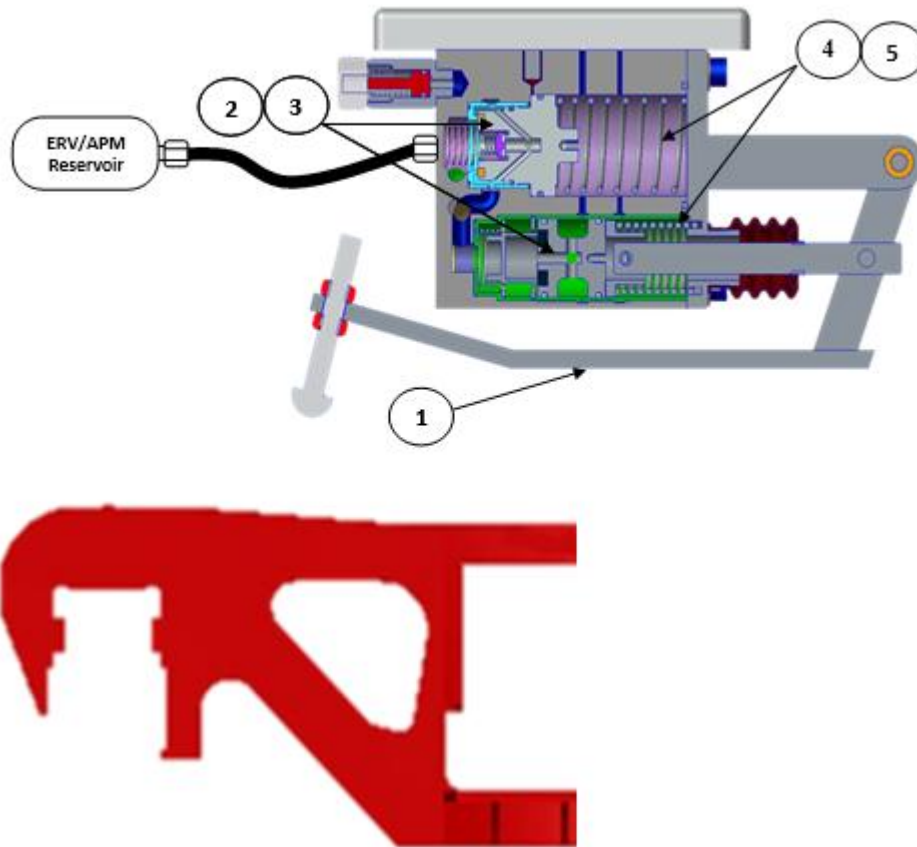

Figure 40: ERV /APM Initial Condition
Ideally the ERV/APM Sensor Arm (1) remains close to the housing in the initial/release condition (Fig 40). Both Movement & Ratio Piston (2, 3) remain on the left side against spring (4,5) force.